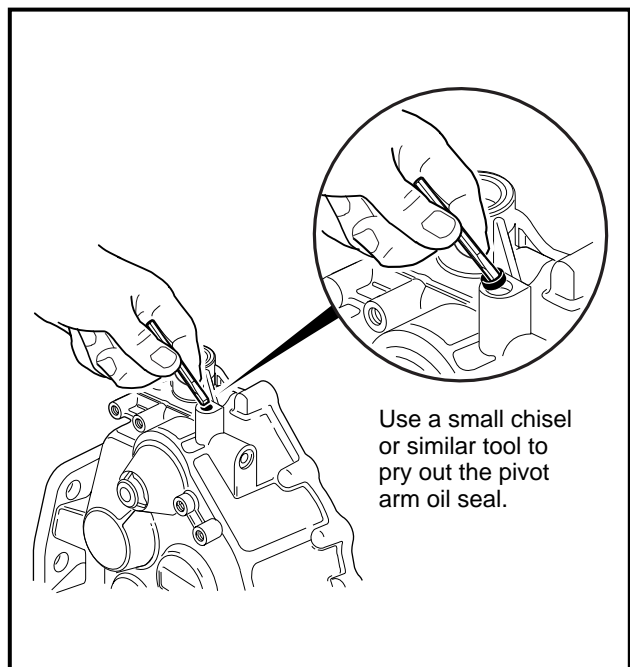

Figure 16-40 Pivot Arm Oil Seal
15.3. Use a small chisel or similar pointed instrument to pry the pivot arm oil seal (22) (Figure 16-34, Page 16-15) out of the case (Figure 16-40, Page 16-17).